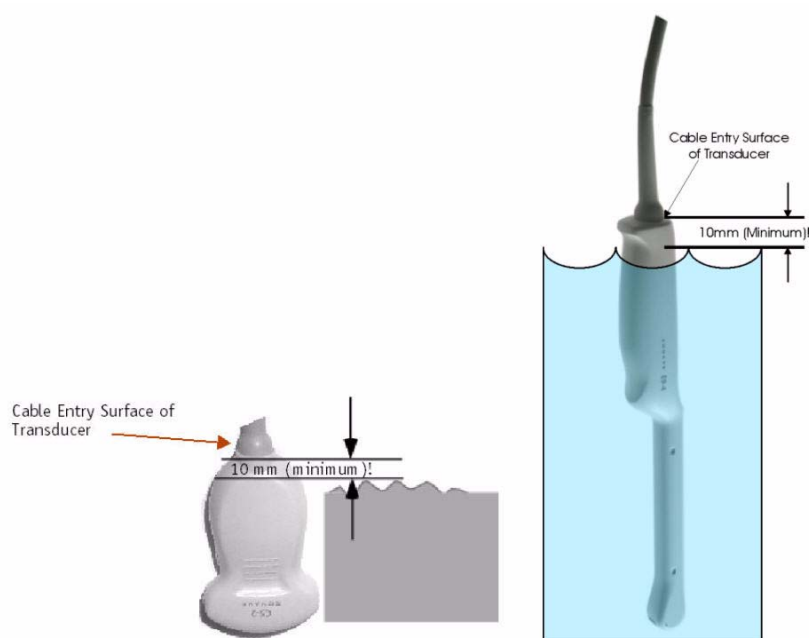

Figure 2. Immersion Level Limits
CAUTION: To prevent possible damage to the electronics of the transducer, never immerse the transducer beyond the point (10 mm below the top edge of the transducer housing) shown in Figure 2.
4. Immerse the transducer into the disinfecting solution, ensuring it is not immersed below the depth indicated in Figure 2. Immersion time should be as recommended by the disinfectant manufacturer.